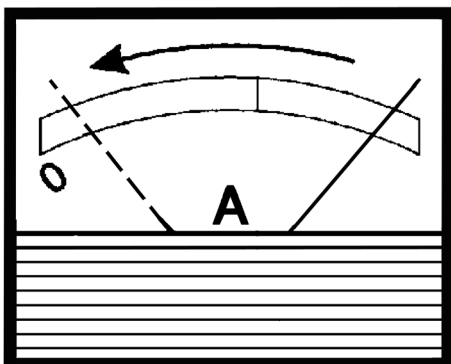

fig.4
- 4.3.3. Check the current delivery to the battery by reading the ammeter on the front of the battery charger (fig.4, ammeter face may vary by model). Initially, there will be a high rate of charge which will slowly decrease according to the capacity and condition of the battery. **NOTE:** If the charger is connected to a fully charged battery the ammeter will show a low output. NO charging is necessary.